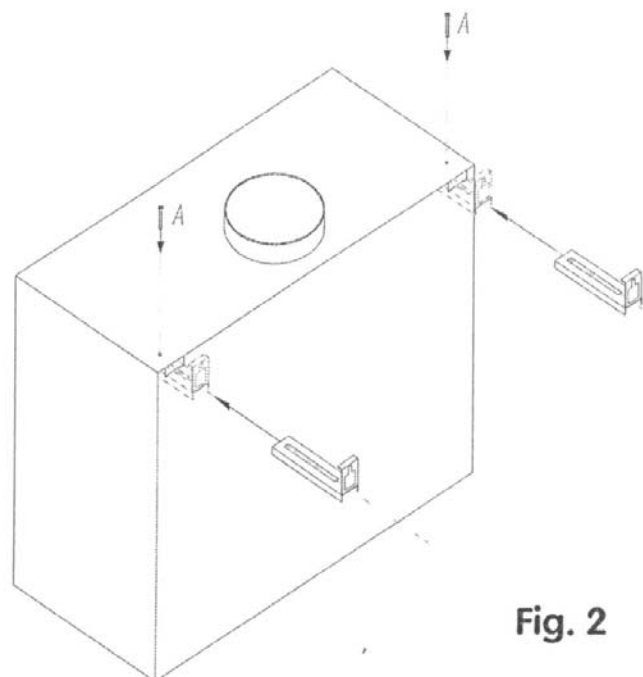

Fig. 2
- Fix the two stirrups (see Fig. 2) in position ensuring screws are tightly fixed.
- Loosely fix the stirrups to the canopy with the screws provided in holes A (Fig.2).